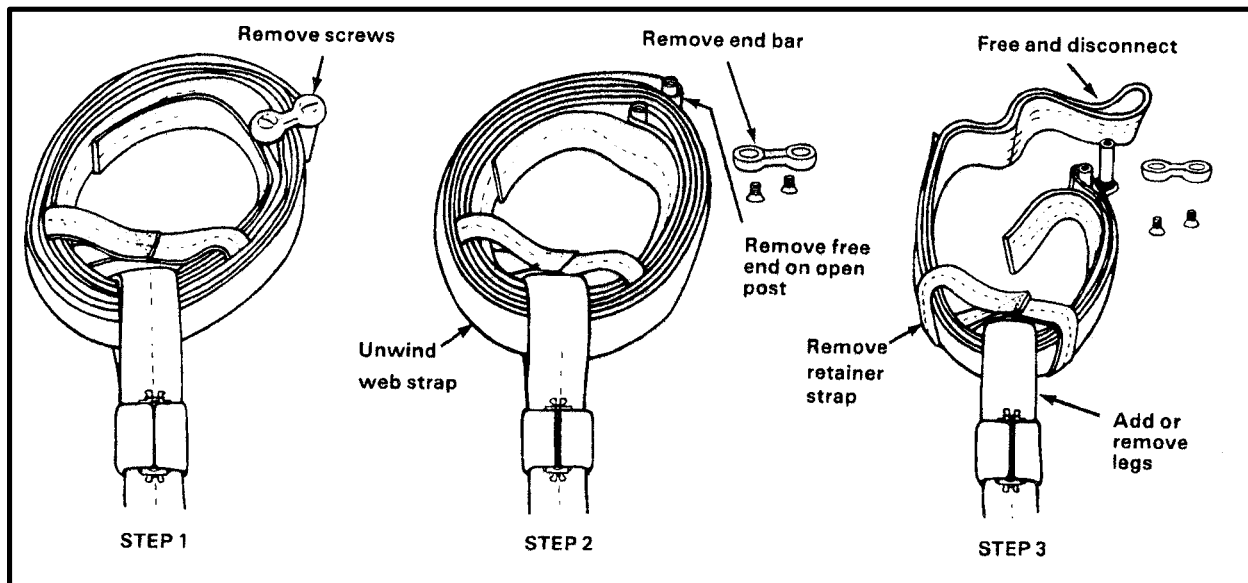
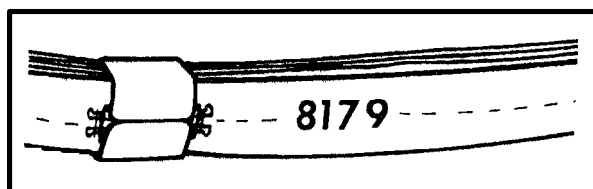

Figure 6-22. Taking Apart the Ring
Figure 6-23. Sample Inspection Date Marking
- (1) Remove the two screws and end bar from the web ring connector bar (Figure 6-22).
- (2) Remove the two free ends of the web ring strap and unwind the web strap.
- (3) Remove the retainer strap and add or remove sling legs as required.
- (4) Install the retainer strap over the web strap.
- (5) Place the free ends of the web strap over the open posts of the connector link.
- (6) Install the end bars and tighten the two screws.
**f. Inspection.** The unit can conduct its own inspection. Each nylon and chain multileg sling must be marked with 1-inch letters showing the date that the set was first placed in use (Figure 6-23). This means the first day the sling is used, not the day of issue. The marked date is used in determining when the next required inspection is due. Although the slings are routinely inspected before and after each use, they must be thoroughly inspected every 6 months.
(1) If the sling is found satisfactory for further use, the old date is marked over and the new date applied. The date can be the calendar date or Julian date as shown in Figure 6-23. The dates will be applied using either orange-yellow parachute marking ink, orange tube-type marker, strata blue parachute marking ink, or strata blue tube-type marker. If the old date was marked with strata blue, mark over the area with strata blue ink and apply the new date using orange-yellow ink. Do just the opposite if the old date was marked with orange-yellow ink. Only one date should appear on the sling. An alternate method for recording the inspection date is to attach a metal tag to the sling set to identify the last inspection date.
(2) If the sling is unserviceable, stencil "unserviceable" on it and dispose of it through supply channels. The sling set is unserviceable if one of the following defects is found: